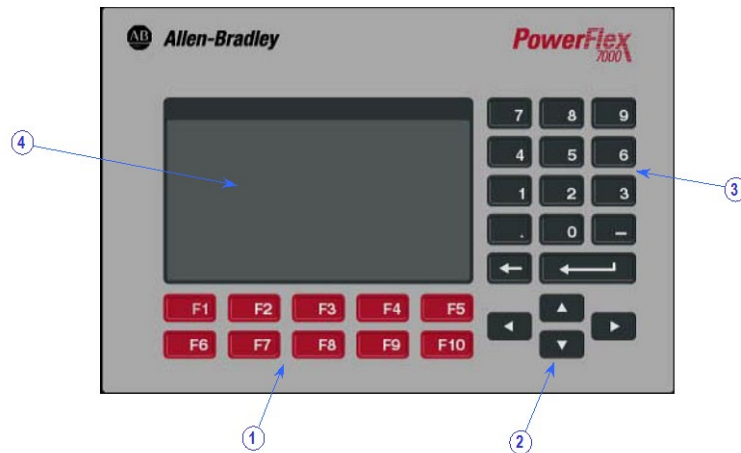

Figure 3.1– PowerFlex 7000 “A” Frame Operator Interface Terminal
The operator interface used on the PowerFlex 7000 “A” Frame Medium Voltage Drive is that of the PanelView™ 550 terminal (Figure 3.1). This terminal however does not behave as a PanelView, as only the hardware for the operator interface has been utilized. The PanelView software has been replaced with unique software to tailor it to the requirements of the Medium Voltage Drive, and its faceplate has been modified (Figure 3.1).
The keypad of the operator interface consists of two rows of five function keys (item 1 of Figure 3.1) located below the operator interface display area (item 4 of Figure 3.1). In the lower right corner of the operator interface are four keys, which will be referred to as the cursor keys (item 2 of Figure 3.1). Above the cursor keys are data entry keys consisting of the numeric values 0-9, a decimal point (.), a negative (-), a backspace key and a data entry key (item 3 of Figure 3.1).